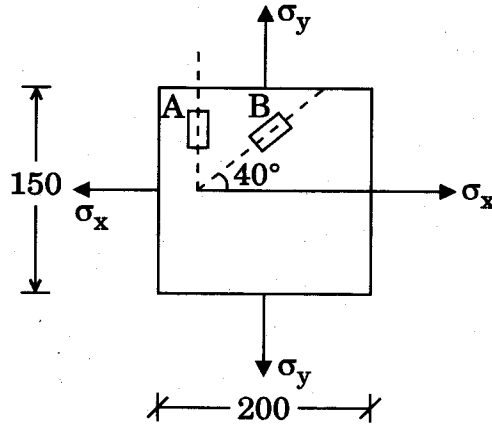

Figure 2
- (e) A 200 mm × 150 mm × 10 mm aluminium plate is subjected to uniform bi-axial stresses σ_x and σ_y . Two strain gauges A and B are attached to the surface of the plate as shown in the Figure 2. If readings in strain gauges are $\epsilon_A = 200 \times 10^{-6}$ and $\epsilon_B = 285 \times 10^{-6}$, what are the values of σ_x and σ_y ? What is the reduction in thickness of the plate as a result of stresses?